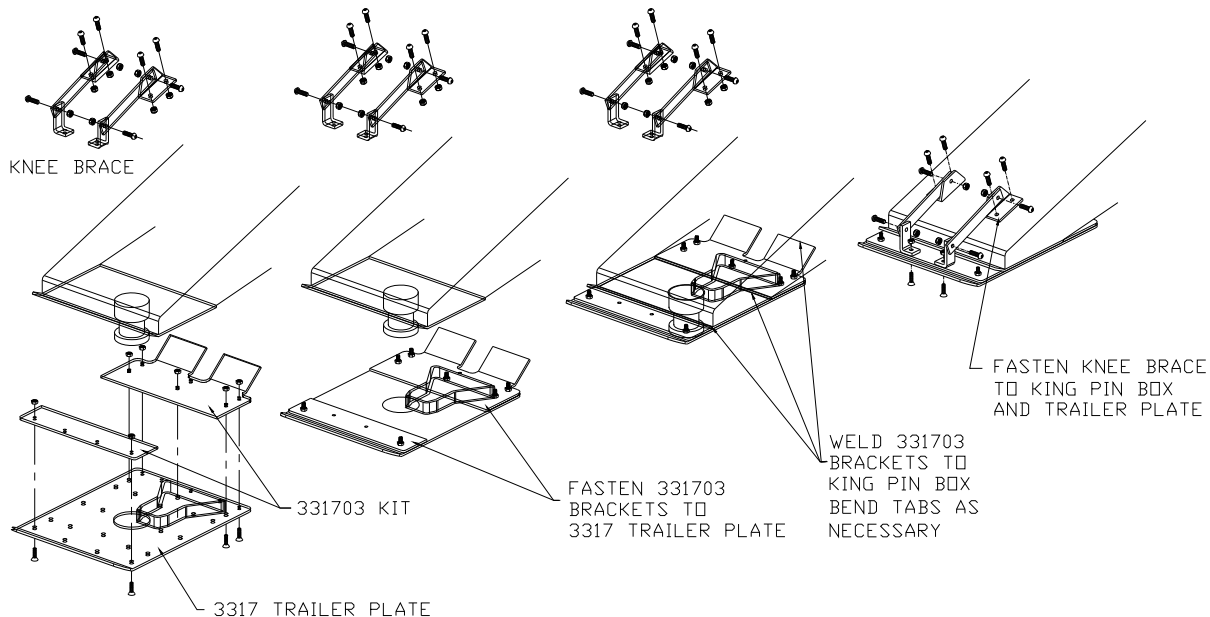

Figure 6
FOR KING PIN BOXES THAT ARE WIDER AND SHORTER: (Figure 6)
1. Place the Capture Plate {J2} over the King Pin, with the guide wedge towards the rear of the trailer (wedge facing down), and measure the distance from the front and rear of the King Pin Box to the respective edges of the Capture Plate {J2} (to the bend of the Capture Plate {J2} in the front). Referring to Figure 6, fashion two plates, 3/16" to 1/4" thick, that will cover the holes of the Capture Plate {J2} showing in front and rear of the King Pin Box.